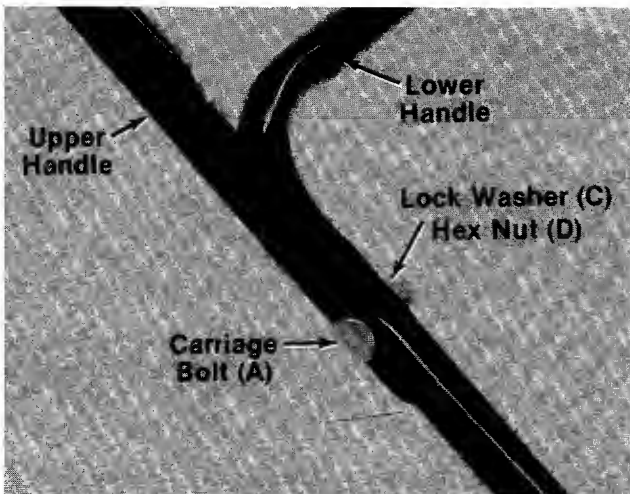

FIGURE 3. Non-Folding Handle Only
- ← **A. Units with Non-Folding Handle**—Secure upper handle with two curved carriage bolts (A), lock washers (C) and hex nuts (D). See figure 3.